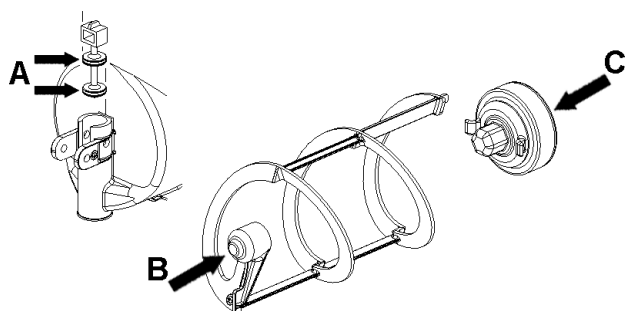

figure 11
- 2 Lubrificare il pistone rubinetto e il rotore magnetico esterno (see points A, B and C of figure 11) only with the grease supplied by the manufacturer or other **food grade approved** lubricant.